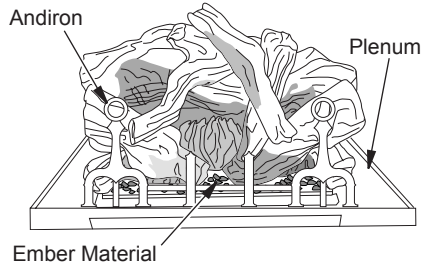

Figure 43 - Placing Ember Material on Burner
1. Pull ember material apart into pieces no larger than a dime. Place these pieces loosely and sparingly directly onto exposed front section of burner (see Figure 43). This will create the glowing ember appearance as flame touches ember material. Do not block air slots by using too much ember material in one area. Do not block pilot ports with embers. It is not necessary to use all of the ember material provided.